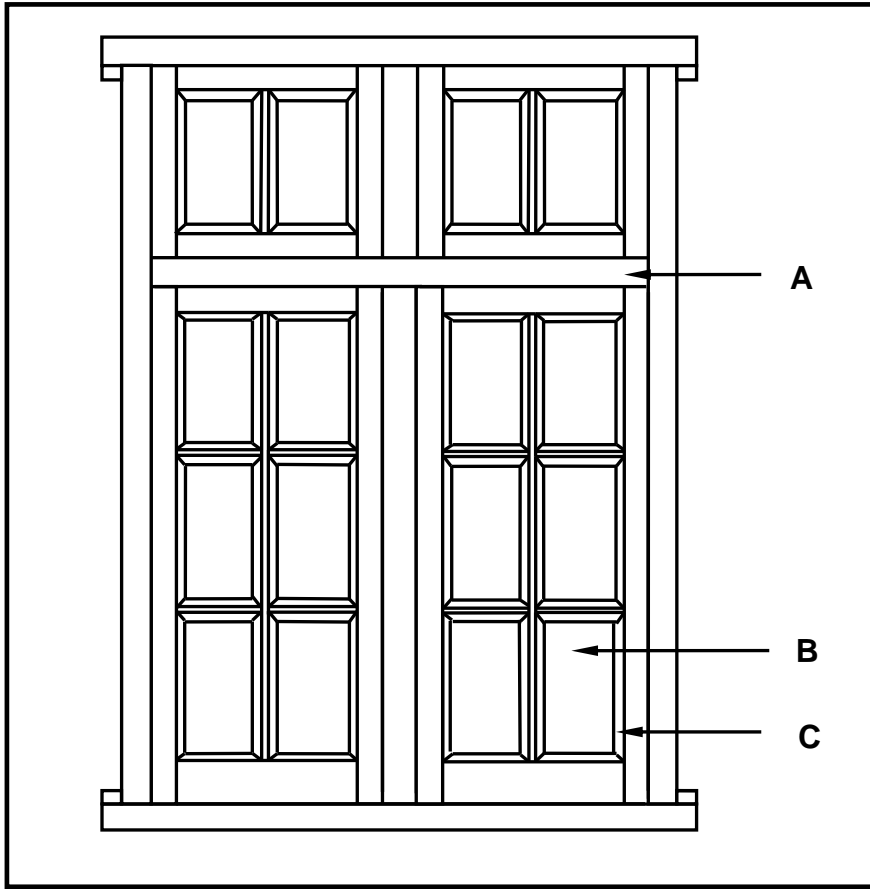

FIGURE 3.2
3.2 FIGURE 3.2 below shows an external elevation of a double casement with fanlights. Study the picture and answer the questions that follow.